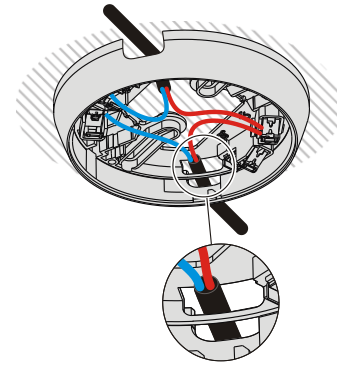

Fig. 3
- If surface mounting is used, there are two possible break-out points on the detector base for the cable entry (Fig. 3).